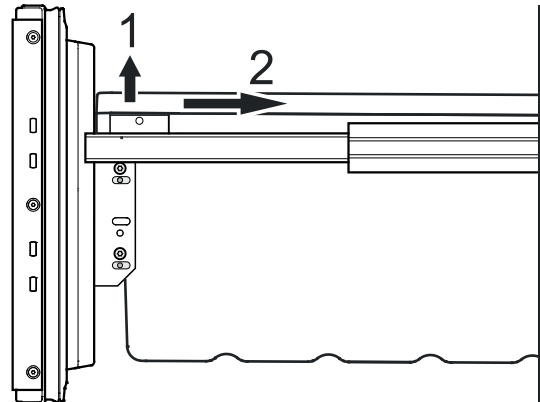
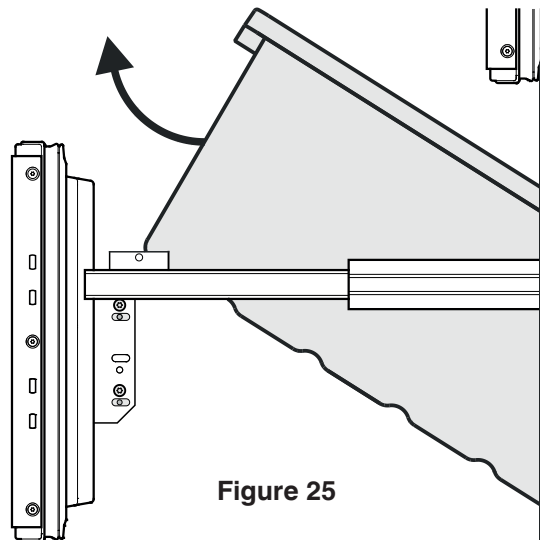

Figure 24
Figure 25
- Unlatch the container on the left and right corners by pulling upwards (1) - **Figure 24**.
- Slide the container backwards (2) - **Figure 24**.
- Tilt the container at an angle and remove - **Figure 25**.
- Remove the freezer drawer containers as shown in **Figure 24** and **Figure 25**.